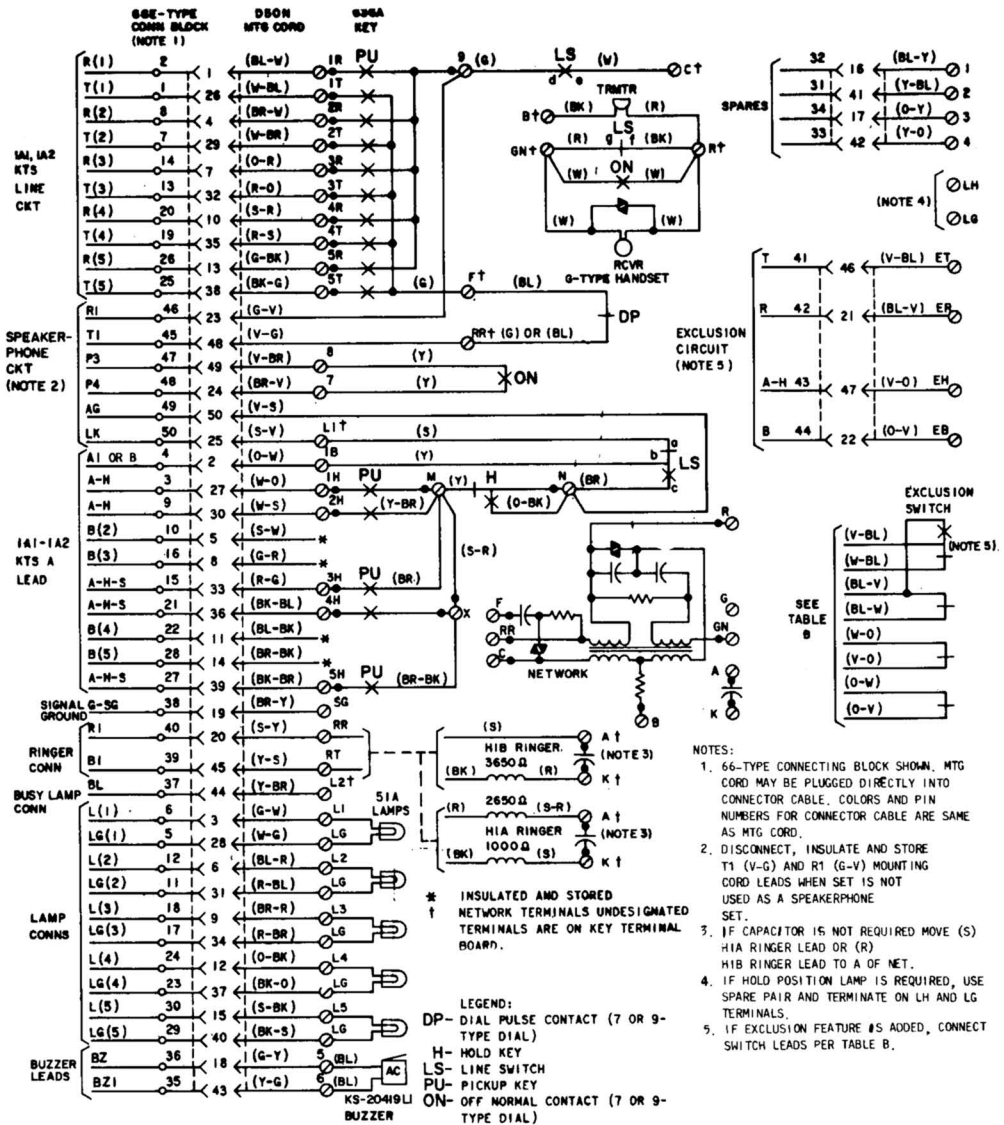

Fig. 1—565HK (MD) Telephone Set, Connections
1.01 This section contains information for the 565HK (MD), 565HKM (MD), and 565HKMS telephone sets (Fig. 1, 2, and 3).
2.01 These sets are factory-wired for use with 1A1 or 1A2 KTS, 4A speakerphone, and individual or common line ringer (Fig. 1, 2, and 3).
1.01 This section contains information for the 565LK (MD), 565LKM (MD), and 565LKMS telephone sets (Fig. 1 and 2).